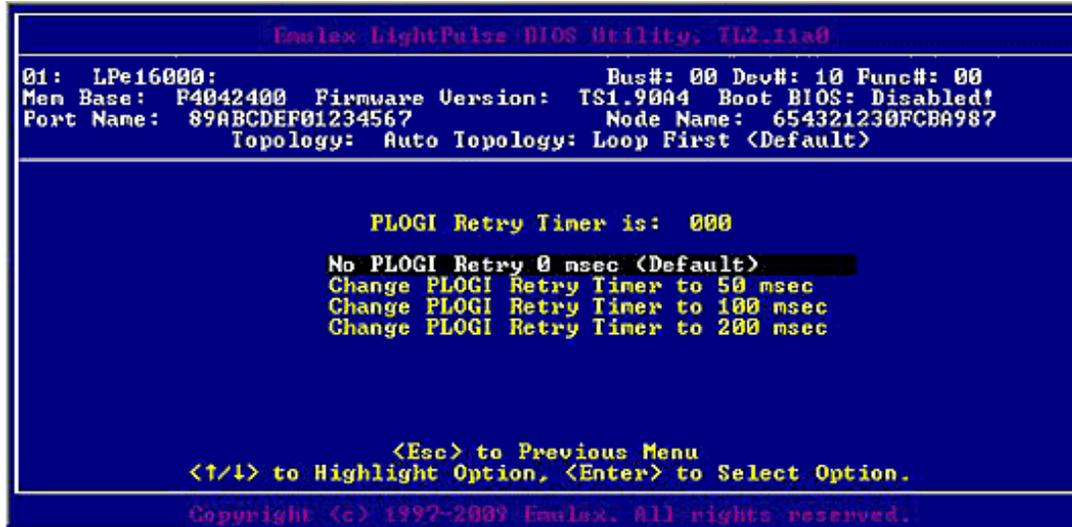

Figure 4-11 Change the PLOGI Retry Timer Screen
2. Select **Change PLOGI Retry Timer** and press **<Enter>**. Information similar to Figure 4-11 on page 34 is displayed.